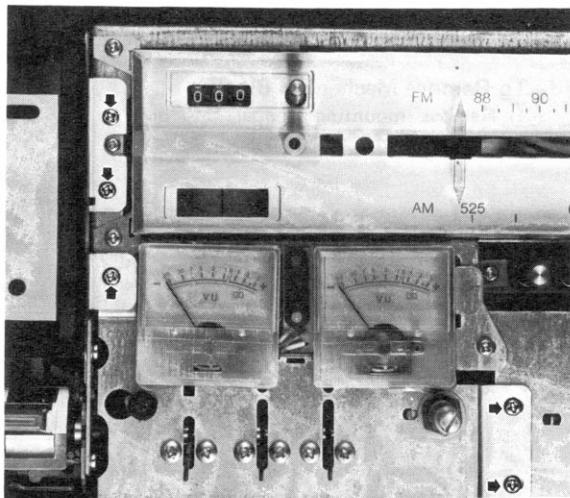

Fig. 28
- 5) Remove 13 screws. (Refer to Fig. 28, 29 and 30)